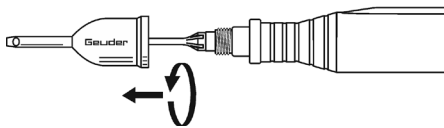
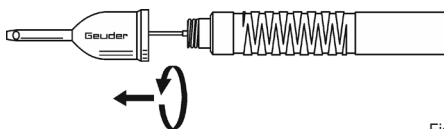

Fig. 2b
Fig. 3
- Remove the infusion sleeve from the ultrasonic handpiece according to fig. 2b, respectively from the I/A-handpiece according to fig. 3.
- Remove the infusion sleeve according to fig. 2b or 3.